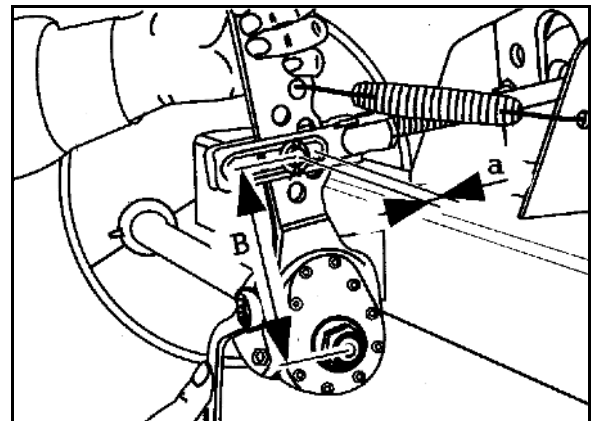

Fig. 140
1. Unscrew the two cover plates (Fig. 140/1) on the inside of the brake drum.
Dirt entering the drums may be deposited on the brake pads (Fig. 140/2) and thus die appreciably reduce brake performance.